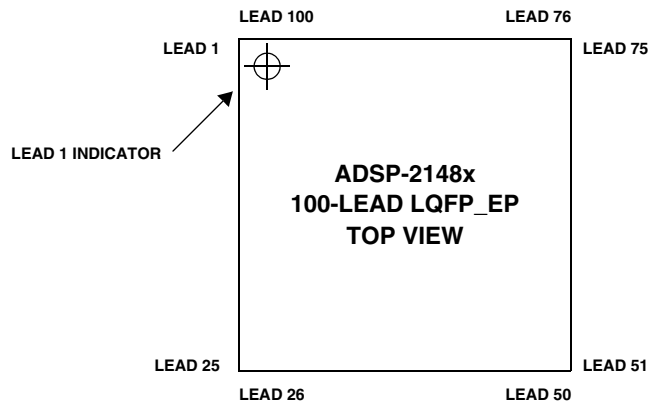
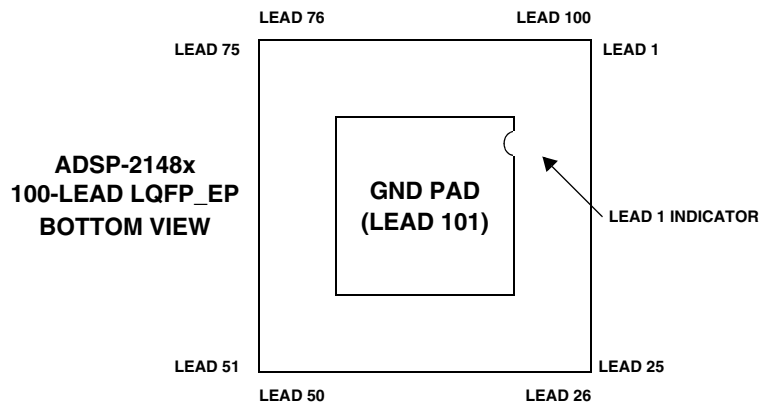

Figure 48. 100-Lead LQFP_EP Lead Configuration (Top View)
Figure 49. 100-Lead LQFP_EP Lead Configuration (Bottom View)
* Pin no. 101 is the GND supply (see Figure 48 and Figure 49) for the processor; this pad must be **robustly** connected to GND.
Figure 48 shows the top view of the 100-lead LQFP_EP lead configuration. Figure 49 shows the bottom view of the 100-lead LQFP_EP lead configuration.